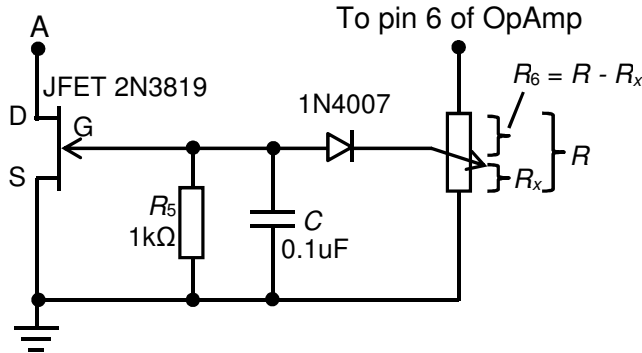

Figure 2: Automatic gain control circuit
1. Replace the section in dashed-line in Figure 1a with the part shown in Figure 2.